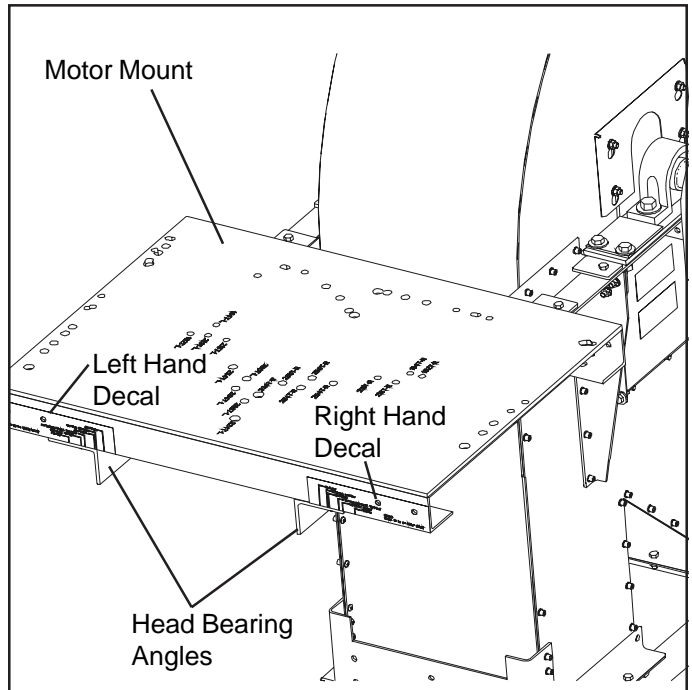

Figure 12: Motor Mount Plate
- 1.) Find the side of the motor mount which has two decals affixed. (See Fig 12.) One decal will have “LH” for left hand and one will have “RH” for right hand.